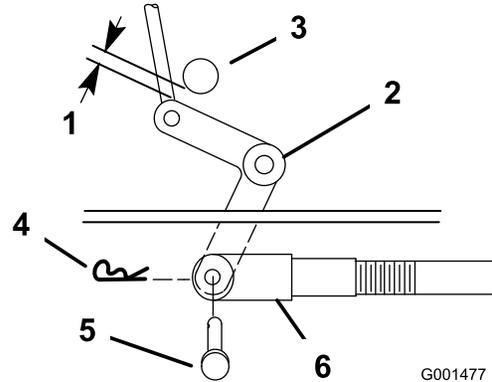

Figure 38
- Check the clearance between the bell crank and the transmission output shaft (Figure 38).
- Rotate the clevis clockwise on the rod to increase the clearance; rotate it counterclockwise to decrease it (Figure 38).
Note: If the assist arm does not contact the front stop on the mower deck (Figure 39 or Figure 40), adjust the clevis to bring the bell crank closer to the transmission output shaft (Figure 38).